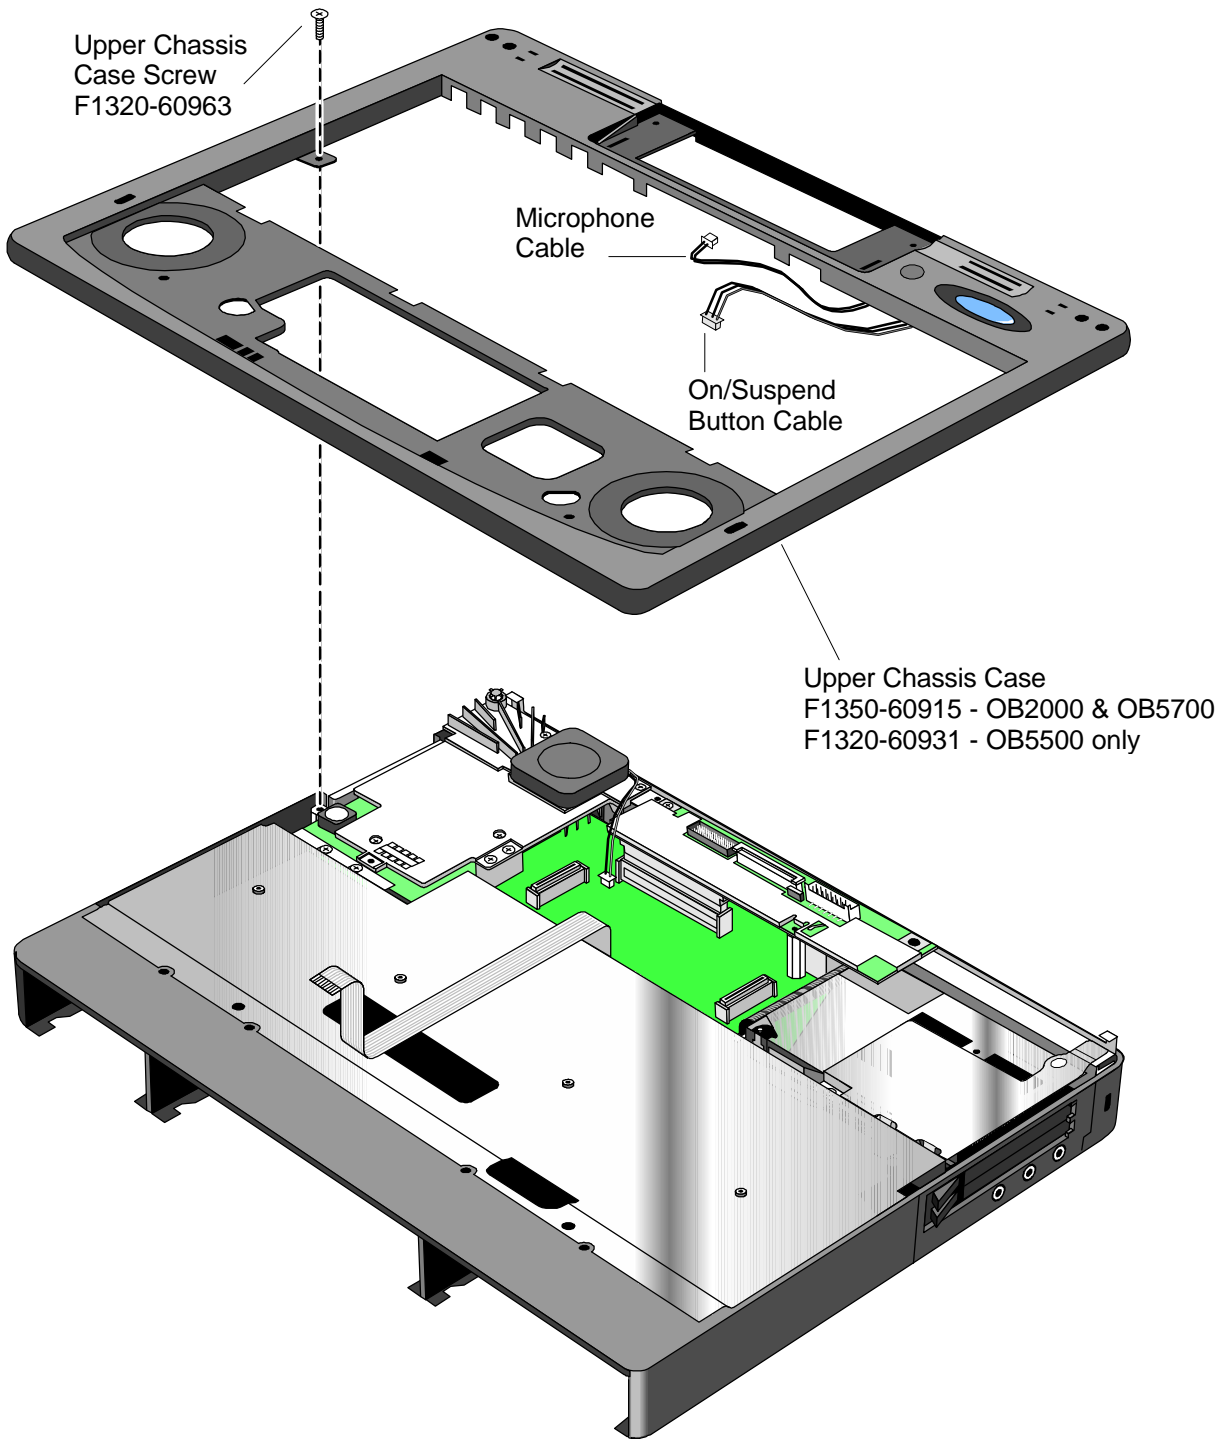

Figure 35 - Upper Chassis Case Removal
4. Remove the Upper Chassis Case Screw and disconnect the On/Suspend Button and Microphone Cables. Lift the Upper Chassis from the base of the unit. See Figure 35.
4. Remove the Upper Chassis Case Screw and disconnect the On/Suspend Button and Microphone Cables. Lift the Upper Chassis Case from the base of the unit. See Figure 35 on page 80.